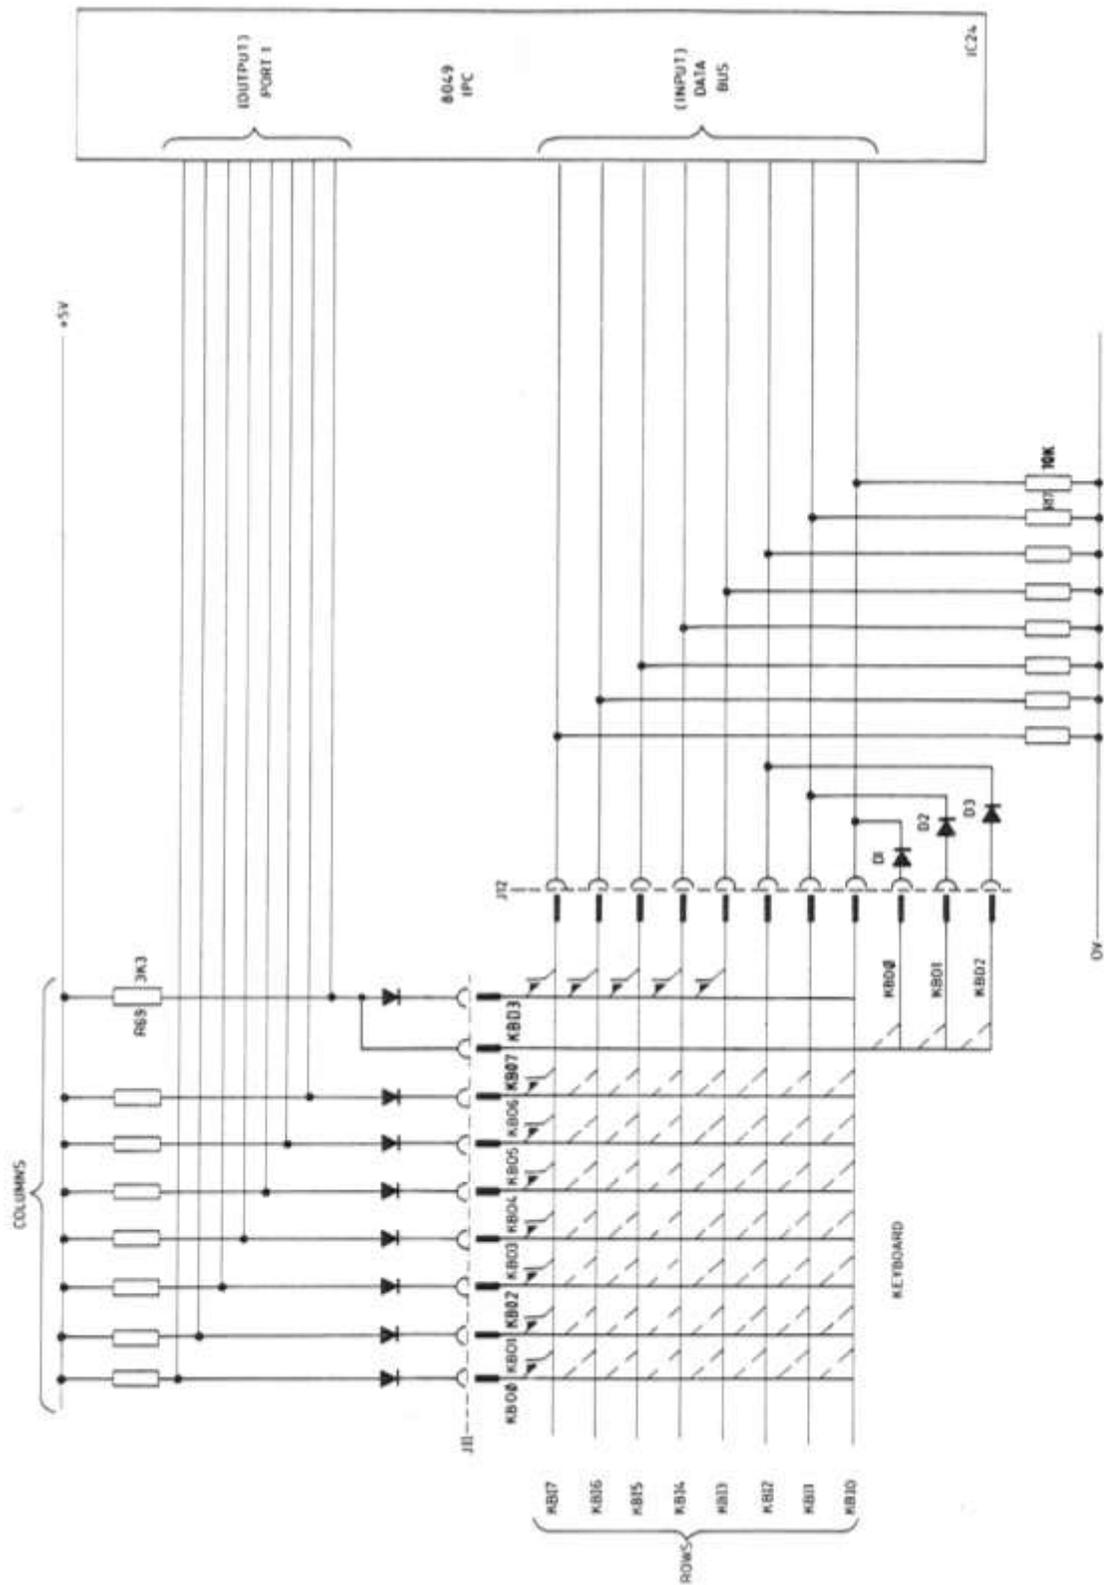

FIGURE 1.2 KEYBOARD MATRIX INTERCONNECTION
4.12 **Keyboard Monitor.** Under program control the 8049 systematically scans the keyboard, recording which keys have been pressed. Figure 1.2 shows the way the keyboard is connected. It consists of an 8 x 8 matrix with one key, the shift key, connected to three input lines. The intersection of each row and column is bridged by a normally open contact. Pressing the key closes this switch. The row 'outputs' and column 'inputs' are shown connected to separate connectors J11 and J12, one to the port 1 outputs of IC24 and the other to the data bus inputs. Pull-down resistors R17 to R24 ensure that when none of the key-switches are closed row inputs K8Q0 to KB07 remain low.